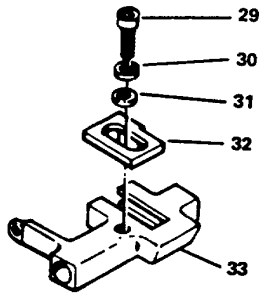

Figure 12-27. Speed Droop Lever
- (26) Assemble speed droop adjustment bracket (32, figure 12-27) on speed droop lever (33) with screw and washers (29, 30, and 31).